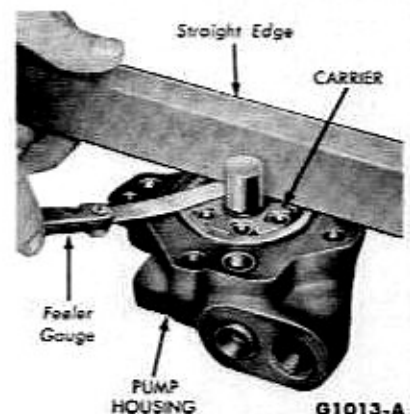

FIG. 8—Checking End Clearance of Carrier and Rollers
7. Using a feeler gauge and a straight-edge, check the end clearance of the carrier and the rollers in the pump housing (Fig. 8). If the clearance exceeds 0.0015 inch, replace the worn parts. A damaged roller, carrier, or insert should not be replaced by itself; these parts are serviced in a kit, and all parts of the kit should be used.